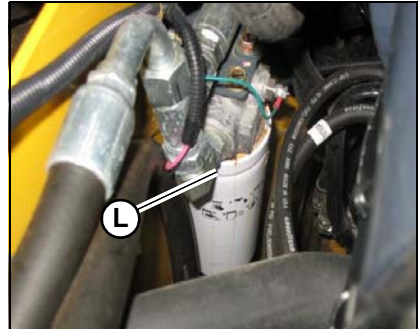

Figure 109 – Hydraulic Oil Filter
5. Unscrew and remove hydraulic oil filter (L, Figure 109).
6. Clean the surface of the filter housing where the element seal contacts the housing. Put clean oil on the rubber gasket of the new filter (L).
7. Install and tighten the filter (L) 3/4 of a rotation past the point where the gasket contacts the filter head.
7. Unscrew and remove the hydraulic oil filter (L, Figure 109).
8. Clean the surface of the filter housing where the element seal contacts the housing. Put clean oil on the rubber gasket of the new filter (L, Figure 109).
9. Install and tighten the filter (L, Figure 109) 3/4 of a rotation past the point where the gasket contacts the filter head.